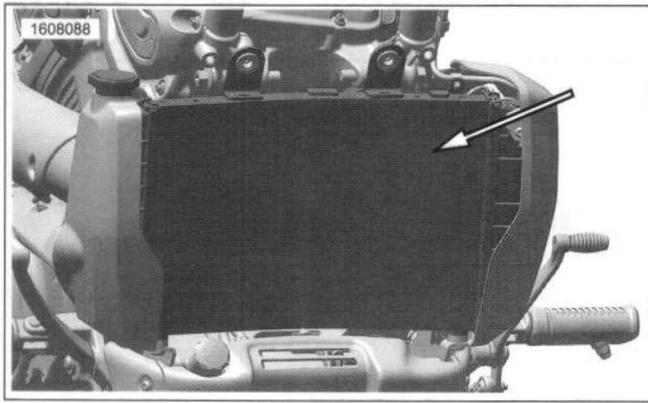

Figure 2-22. Radiator Fins
1. See Figure 2-22. Clean debris from radiator fins.